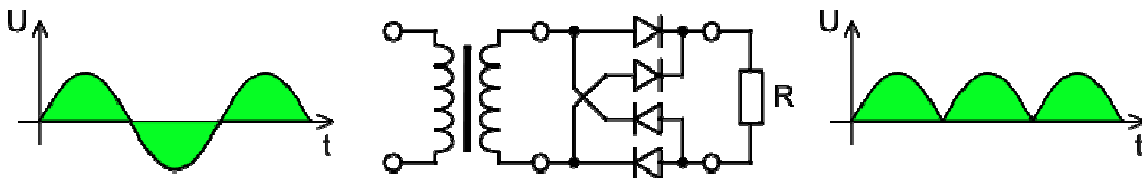
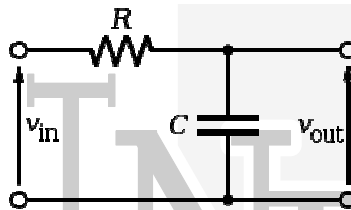

Figure 2: Full-Wave Rectifier with Input Waveform (left), Circuit (middle), and Output Waveform (right)
Figure 4: Low-Pass Filter
A more complex rectifier is the single-phase full-wave which employs two diodes. However, it has the ability to “flip” the negative half of the wave cycle to positive – ensuring maximum power transfer. Refer to Figure 2.
The output of the rectifier shown in Figure 2 is direct-current, although it is by no means constant with respect to time (straight line). Remember, a dc waveform is one which does not cross the  $x$ -axis (aka. reverse direction). However, it may still exhibit periodic changing behavior. A low-pass filter may be used to eliminate higher-frequency harmonics in the dc waveform. Refer to Figure 4. The corner frequency of this filter is defined in (4).